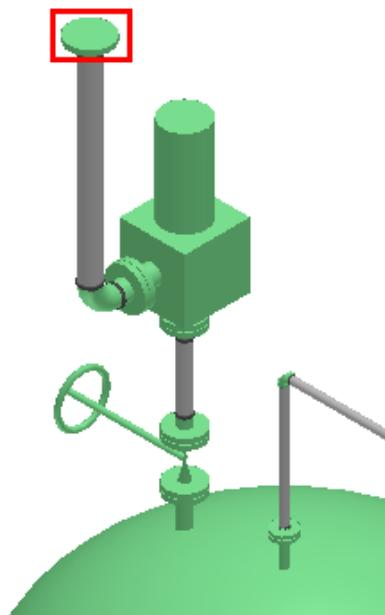

Figure 33: Flange Connected With the Vent Pipe
1. Place a flange at the top of the pipe that you routed above by using the **Insert Component** command. The flange after placement will resemble Figure 33 in the graphic view.